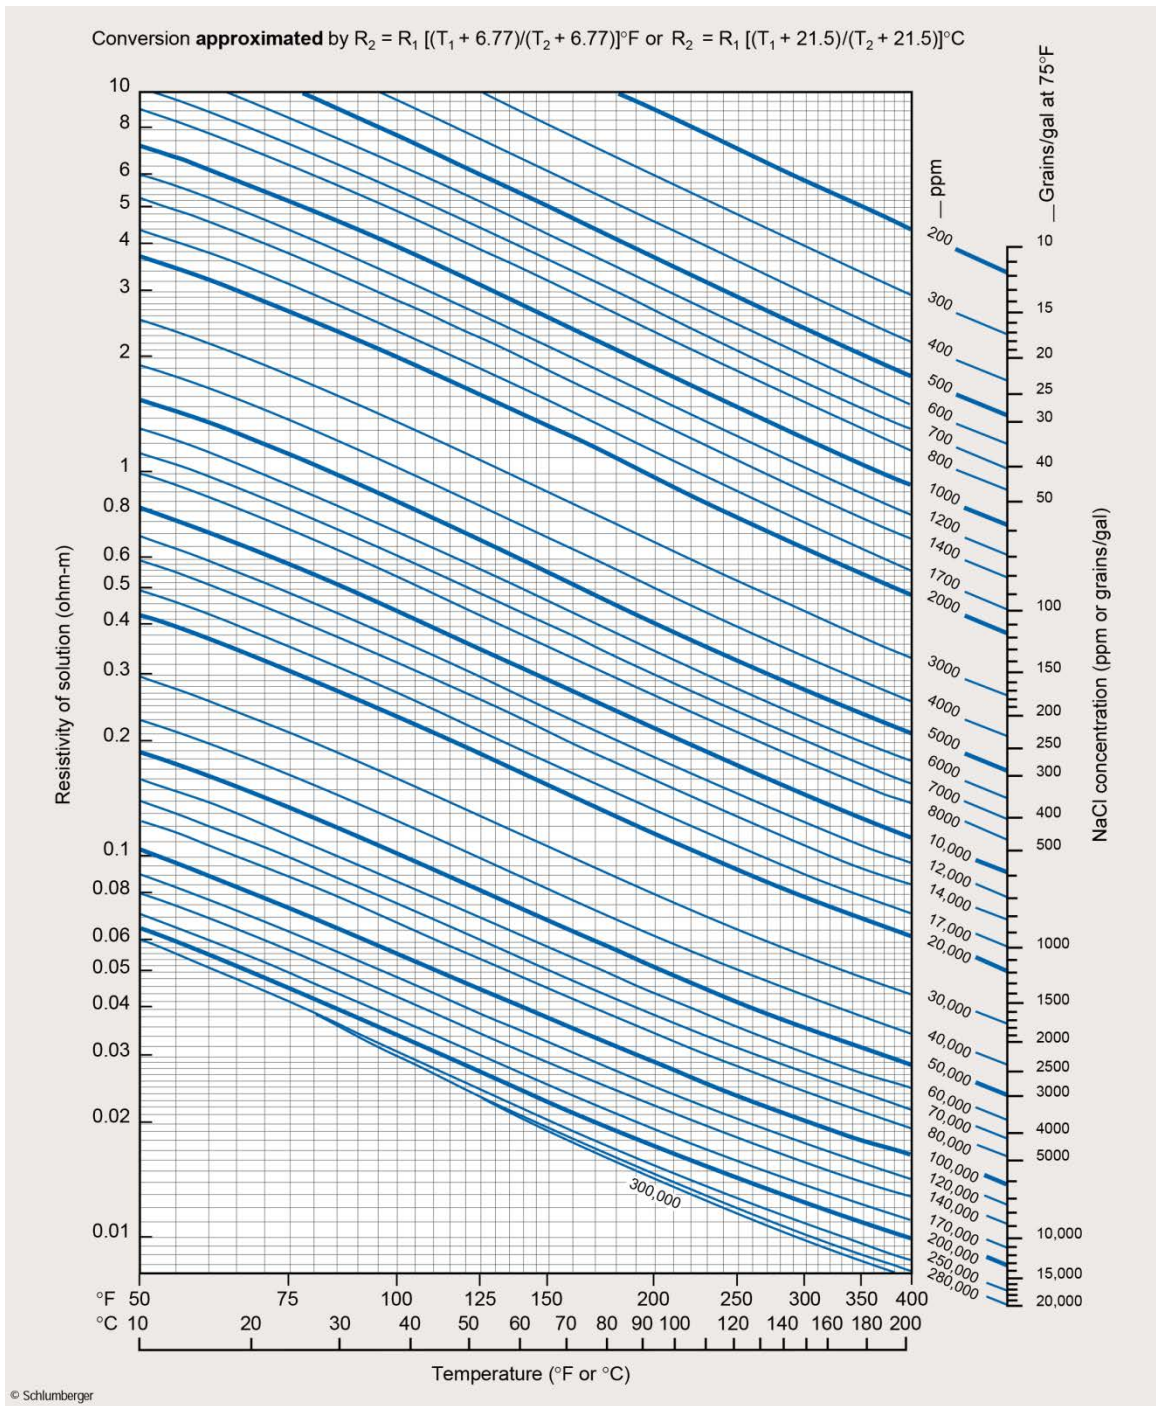

Figure 4-1 Resistivity Chart for NaCl Solutions
The Model 88C can measure resistivity in three ranges – 0.01 to 2, 0.1 to 20, and 1.0 to 200 ohm meters. The ohm-meter reading can be converted into parts per million sodium chloride (or equivalent calcium chloride, potassium chloride or other carbonate or hydroxyl salts) using the resistivity chart (Figure 4-1). This instrument can be operated by its own batteries or by a battery eliminator (P/N 101710234).
The resistivity chart or nomograph (Figure 4-1) is used to determine the quantity of sodium chloride (in combination with distilled water or other salt-free aqueous medium) that is required to produce a solution with the same resistivity as the sample. The concentration for carbonate salts, calcium salts, and hydroxyl salts can be found in conductance tables for aqueous solutions.
6. Using the nomograph (Figure 4-1), convert the resistivity in ohm-meters to concentration of chlorides.